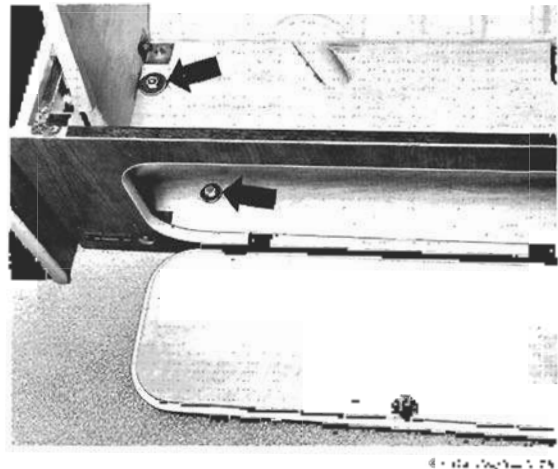

Fig. 7-7. Nuts and bolts that hold cabinet to floor.
- 2 Remove the nuts indicated in Fig. 7-7. Then, working under the vehicle, pull the bolts out of the floor panel. If necessary for access to the left-side bolt, temporarily remove the heater pipe extension.